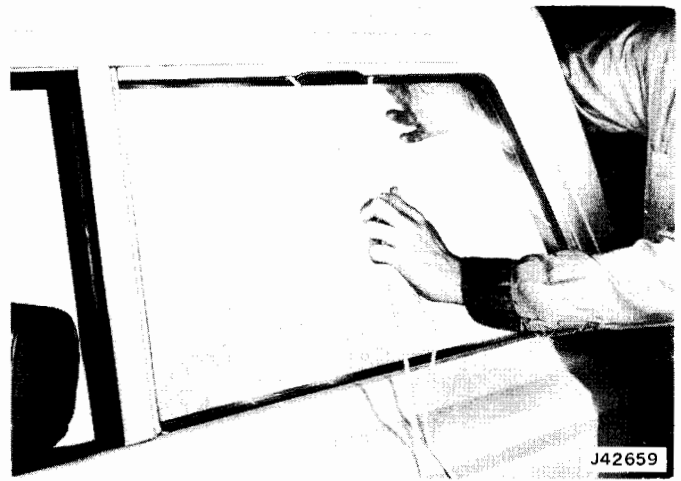

Fig. 15-7 Rear Quarter Window Installation
- (6) Place glass and weatherstrip into position in window opening with ends of cord hanging outside vehicle (fig. 15-7).
- (7) Pull on ends of cord to pull lip of weatherstrip over body panel. With cord removed, weatherstrip should be positioned correctly.
- (8) Replace interior garnish moulding.